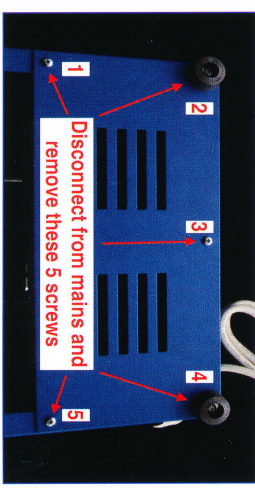

Fig. 8
1. Check that the four bearings are in place. If the machine has been turned upside down the black plastic bearings can come loose. If they have fallen into the motor compartment you can retrieve them by first **unplugging the machine from the mains power** and then removing the base plate by unscrewing the small screws. (Fig. 8) Be sure to replace the base plate before plugging the machine back into the mains power.